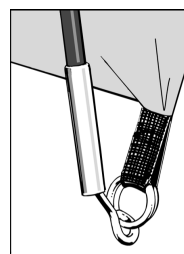

Figure 1.
- Locate one end of each pole onto the corresponding metal pin. The metal pin inserts into the hollow metal ferrule on the end of each pole. **(See Figure 1)**. Push the pole into a curve from the opposite side, one at a time, and locate all pole ends onto the metal pins.